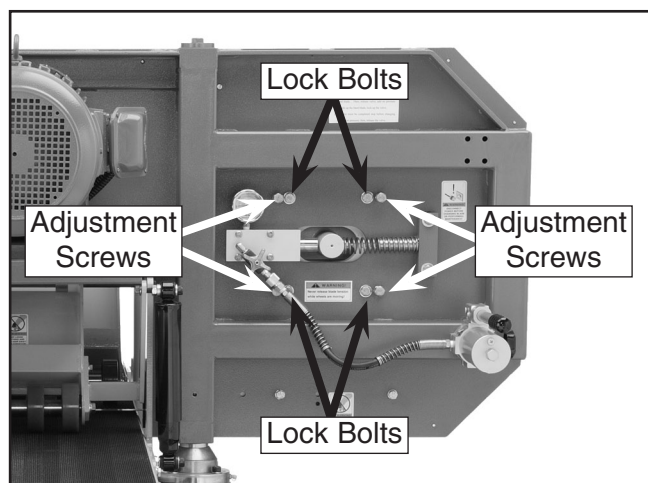

Figure 47. Tension wheel adjustment bolts.
7. Look at the backside of the wheel guard and learn the controls shown in **Figures 47 & 48** by reading the text that follows.